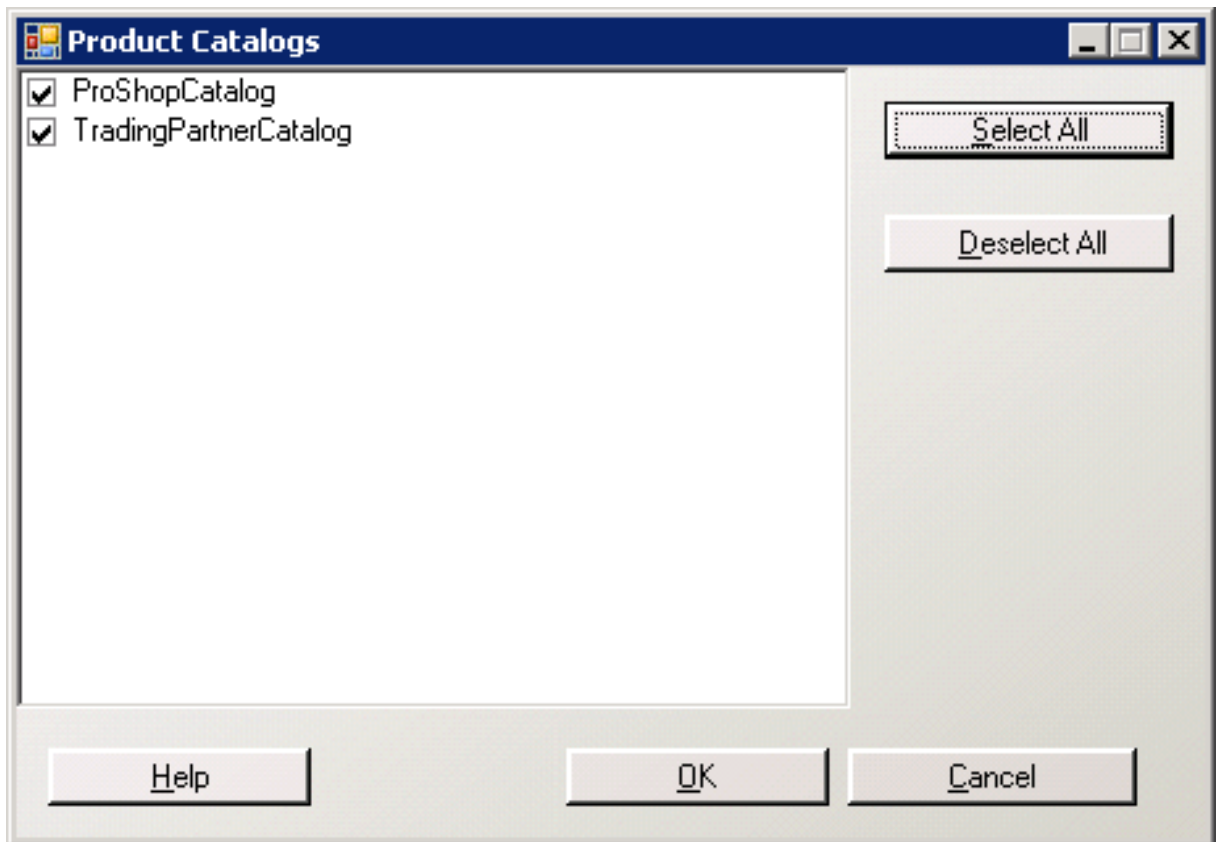

Figure 4-9
- The Product Catalogs screen will list all the available product catalogs that can be added to this inventory catalog (Figure 4-9). Since a product catalog can only be mapped to one inventory catalog only unmapped product catalogs are displayed. Either select both the ProShopCatalog and TradingPartnerCatalog, or click the Select All button. Click the OK button to continue.